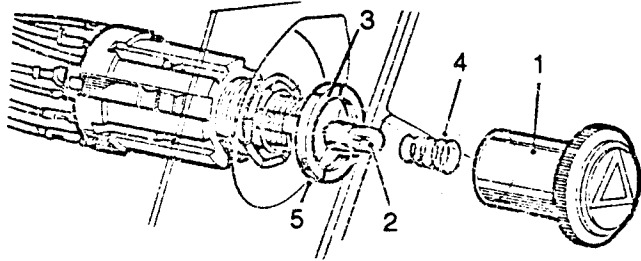

Fig O5.33
- (2) Refer to Fig O5.33. Unscrew the hazard warning switch knob (1) taking care not to lose the bulb and spring (4).
- (3) Pull out the warning lamp bulb (2).
- (4) Remove the self tapping screws holding the panel on which the hazard warning lamp switch and test switch are mounted. Ease the panel forward away from the dash.
- (5) Unscrew the locking ring (3) holding the switch to the panel and remove, together with the wave washer.
- (6) Pull out the switch from the rear of the panel.
(7) Disconnect the electrical leads round the periphery of the switch.
(8) Disconnect the black centre lead.